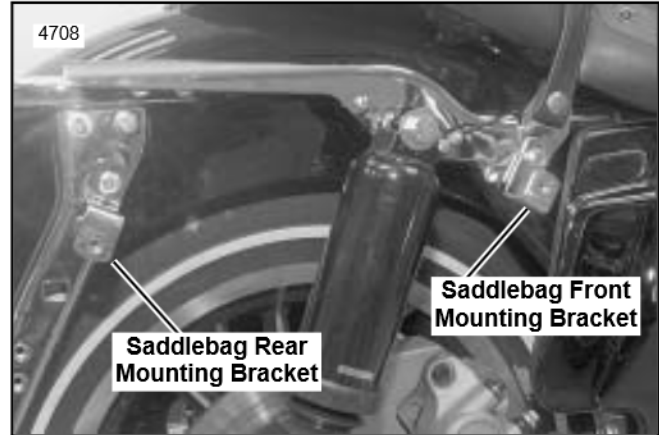

Figure 1. Remove Saddlebag from Mounting Brackets
2. See Figure 1. Raise lid of saddle bag on right side of vehicle. Remove two bolts within saddlebag to detach unit from front and rear mounting brackets. Remove saddlebag from vehicle.